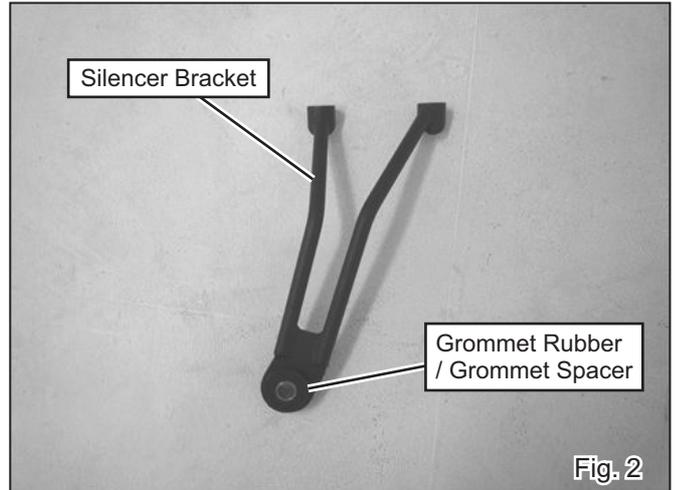

Fig. 2
- 4) Insert Grommet Rubber and Grommet Spacer to Silencer Bracket (See Fig. 2).